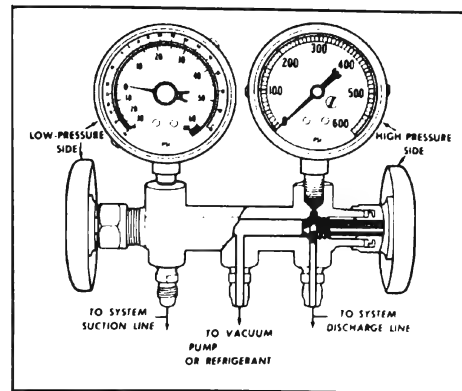

Figure 11-87—Manifold and Gauge Set, J-5725-01
2. Using Adapters J-5420, connect charging lines of pressure gauge and set Manifold and Gauge Set J-5725-01 (see Figure 11-87) to Schrader valves as shown in Figure 11-153 with both valves of manifold closed.